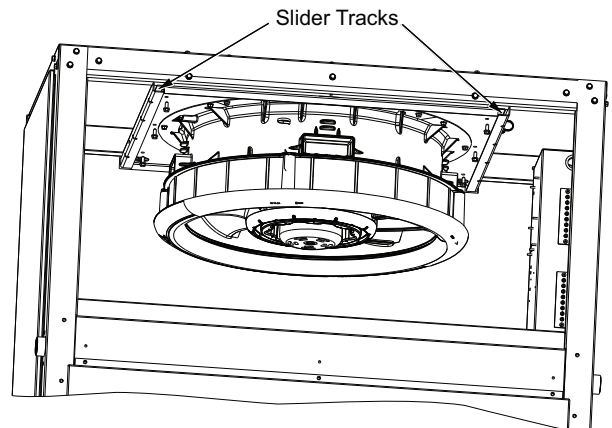

Fig. 48 — Lower Fan Deck Assembly to Slider Tracks
4. Allow the fan deck to drop into the slider tracks (careful not to pinch body parts when the fan drops) See Fig. 48.